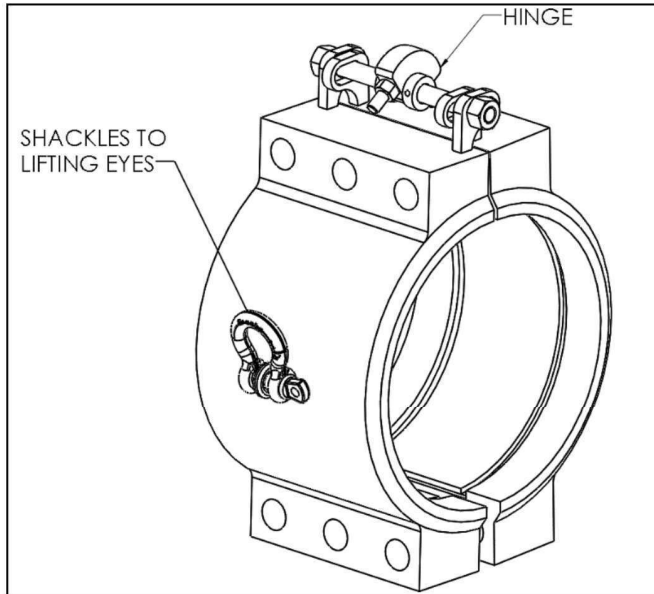
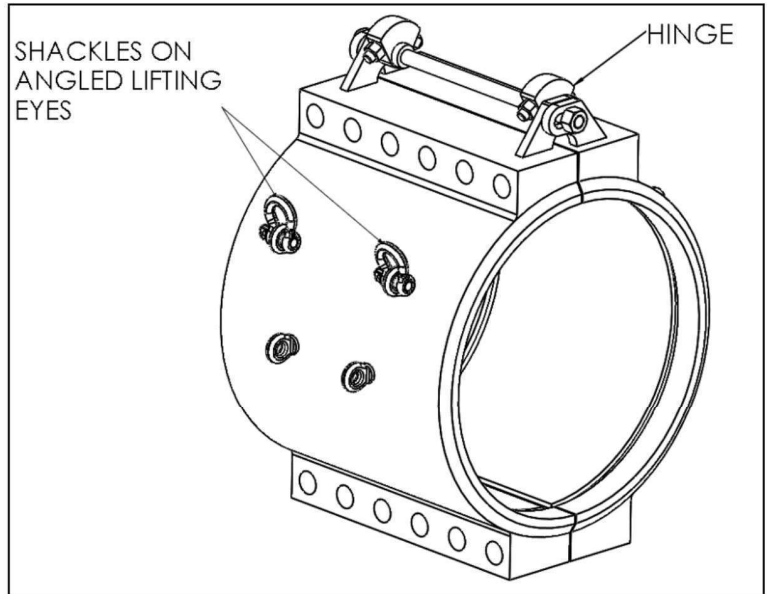

Figure 9
Figure 10
1. Orient the Clamp+Sleeve and remove all studs and nuts as shown in Figures 9 & 10.
2. Attach shackles to the lifting eyes. Smaller fittings typically only have lifting eyes in the center of the shell as shown in Figure 9. Larger diameter fittings have additional lifting eyes on an angle as shown in Figure 10. For larger diameter fittings, the angled lifting eyes are to be used during installation with hinges.